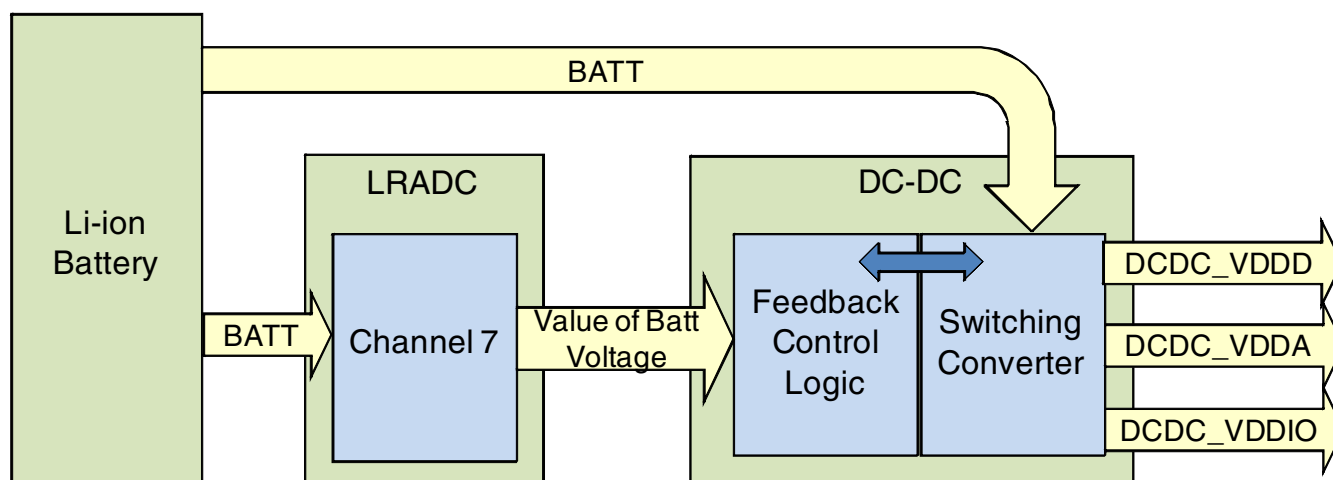

Figure 4. Enable logic for linear regulators
Figure 4 shows the power source and enable logic for the LinReg.
As shown in Figure 4, the logic to enable the VDDIO and VDD1P5 LinRegs is straightforward. In this case, only a single combination of bits is required to enable the LinReg. For the VDDD and VDDA power rails, three different combinations of bits are considered to enable the LinReg output—two combinations when VDD5V is present and the other when there is no supply on VDD5V source.
- The combination with the AND gate 1 in Figure 4 is the default configuration. In this case, the AND gate is triggered only when the ENABLE\_DCDC is false and the VDD5V source is present. This means that the availability of the supply on VDD5V can activate or deactivate the corresponding LinReg without any software interaction.
- For the combination with AND gate 2 in Figure 4, the LinReg is activated when the VDD5V source is present, ENABLE\_DCDC bit is true, and ENABLE\_LINREG bit is true. When the VDD5V source is present and ENABLE\_DCDC bit is true, the ENABLE\_LINREG bit of the rail activates the LinReg. Note that the DC-DC converter is active at the same time because the ENABLE\_DCDC bit is true.
- The combination with the AND gate 3 in Figure 4 occurs only when there is no supply on VDD5V. Here, the VDDD and VDDA LinRegs are enabled by setting the ENABLE\_LINREG bit.